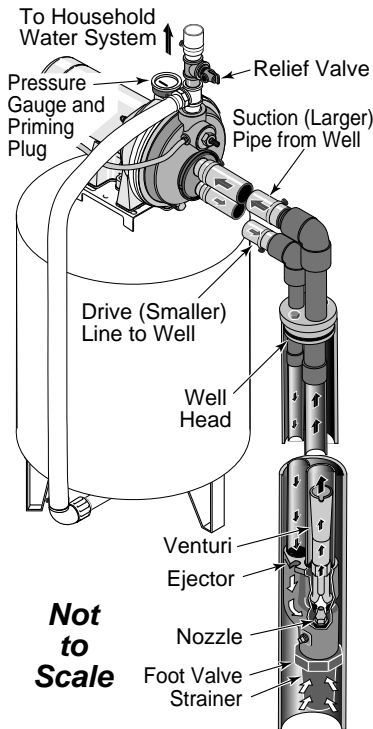

Figure 10: 4" and Larger Deep Well
4" Or Larger Well (Figure 10)
2. Assemble ejector kit FP4800 (kit sold separately). See Figure 10. Follow the instructions included with the kit in order to match the nozzle and venturi to your well conditions.